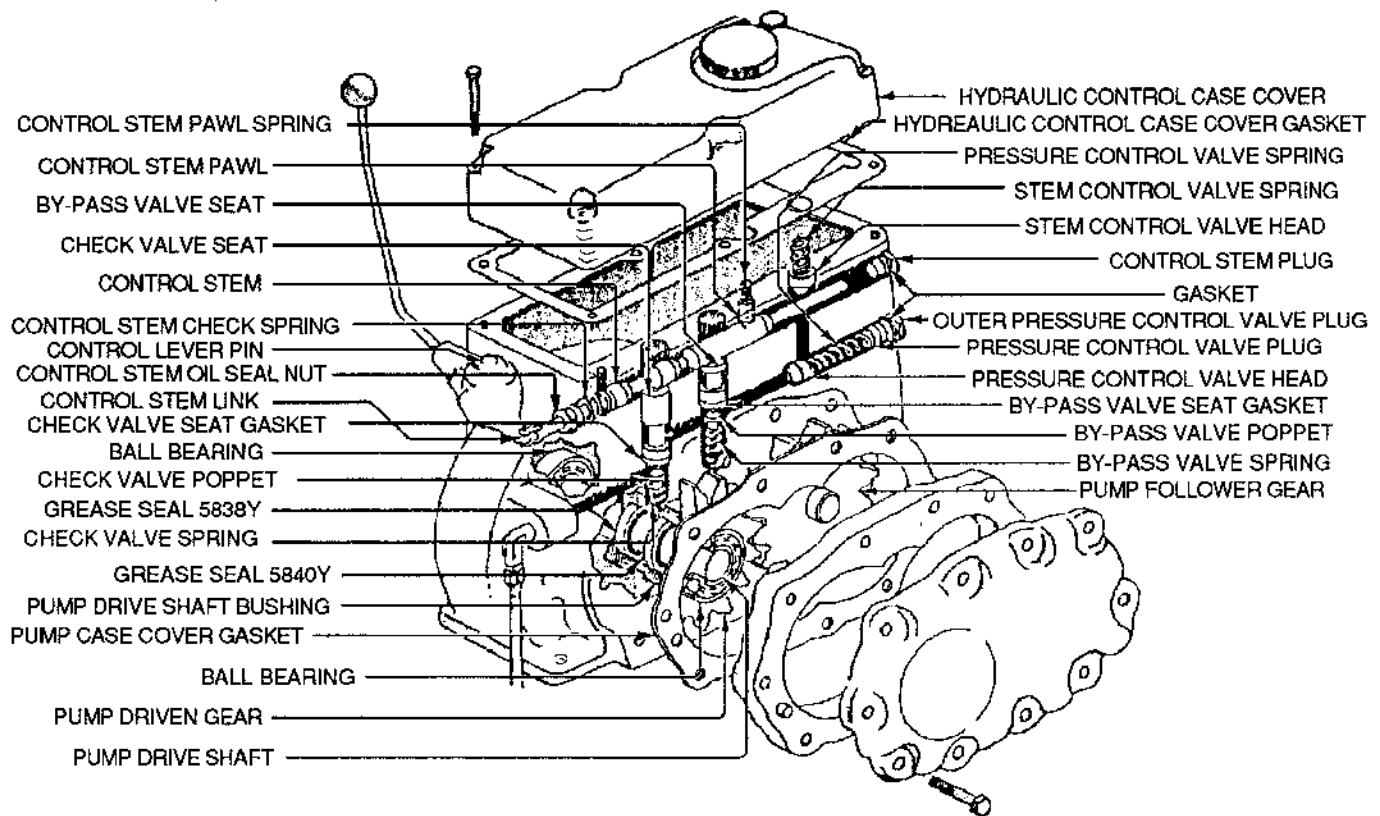

FIG. 5 HYDRAULIC CONTROL SYSTEM ADJUSTMENTS
(See Figure 5)
9. To assure proper functioning of new drive shaft oil seals, they should be snugly tapped into position with driving Tool No. E-392Y for seal No. 5480Y, and driving Tool No. E-393Y for seal No. 5838 Y (See Fig. 5).